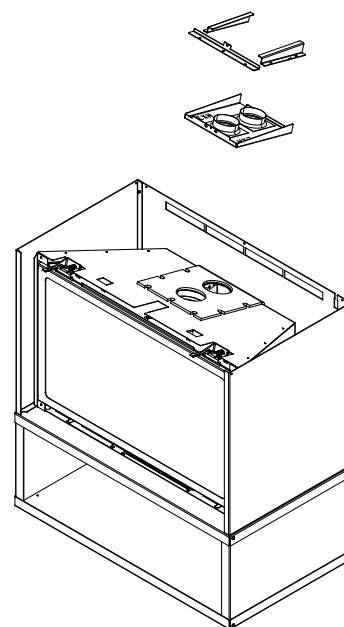

Figure 6.14
14. Remove slide plate guides, slide plate stop and slide plate assembly by removing the 6 screws holding the brackets to the top of the insert. See Figure 6.14.